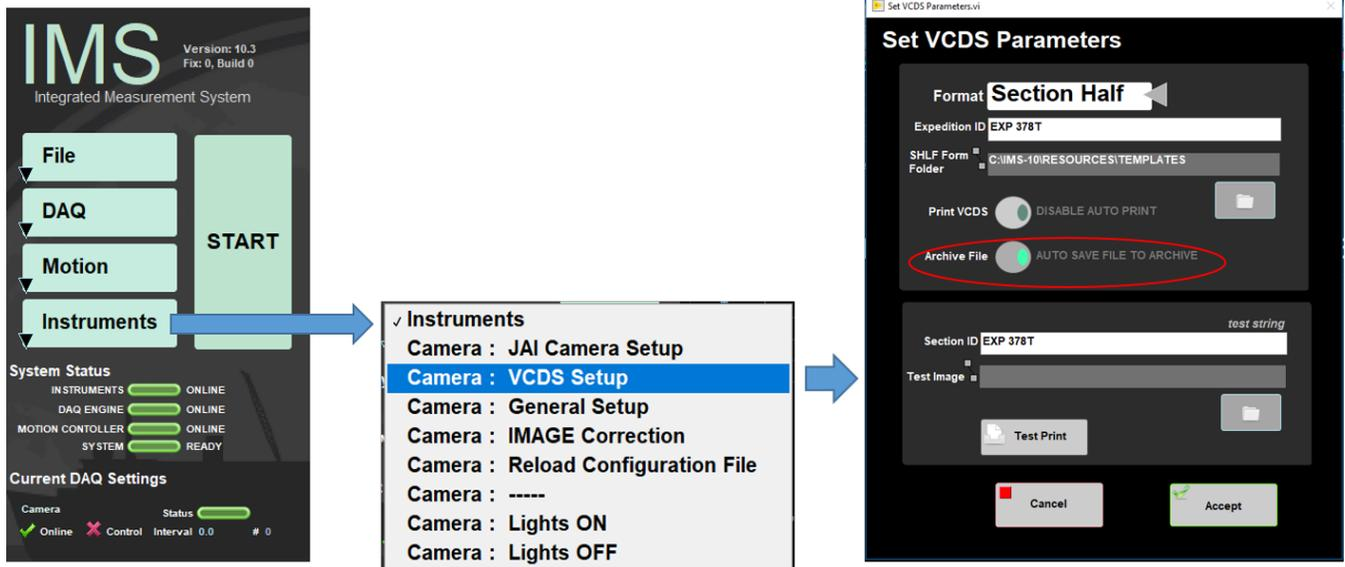

Figure 15. Select to preserve a digital copy of VCD-S
**VCD-S:** The SHIL can preserve a digital copy of the VCD-S that is printed out. If a scientist wants to keep a digital copy of the scratch sheet turn on the feature in **Instruments > Camera: VCDS Setup** (Figure 15). Files are then written to C: data > in > VCD-S. These files are not uploaded to LIMS and should be put in data1 at the end of the expedition. The files can be put on the server for scientist access to a convenient, shared location such as UserVol.